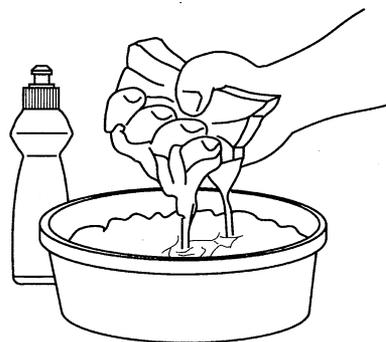

Figure 19
4. Wash air filter in laundry detergent or kerosene (Fig. 19).